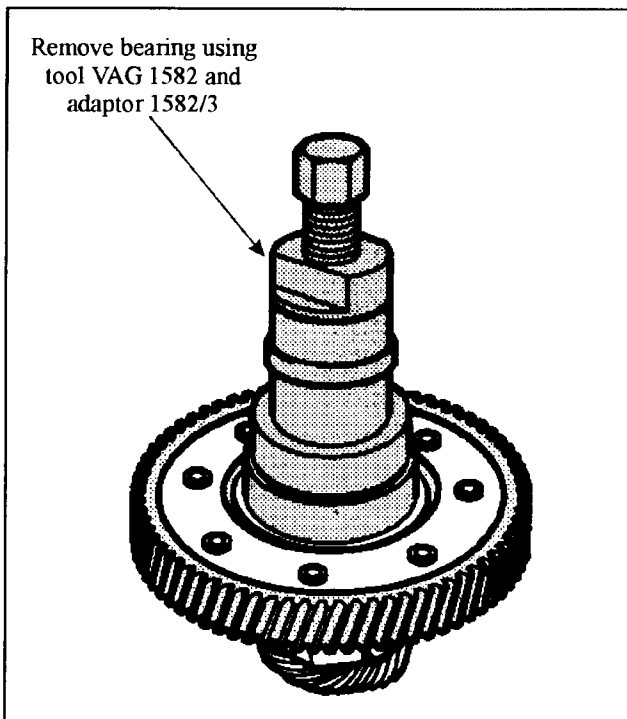

Figure 101
7. Turn the differential over to the other side, be careful not to break the plastic speedometer drive gear. Using tool VAG 1582 and adaptor 1582/3 remove the tapered roller bearing from this side of the differential (See Figure 101).